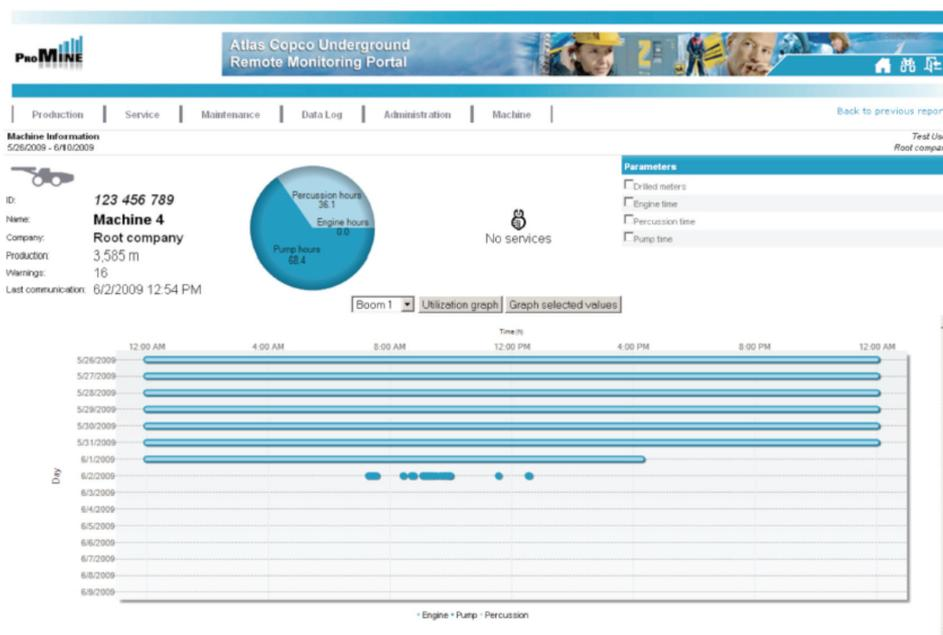

Figure 9. Specific machine information
- Machine statistics, i.e. standing vs. tramming vs. drilling (refer Figure 9)